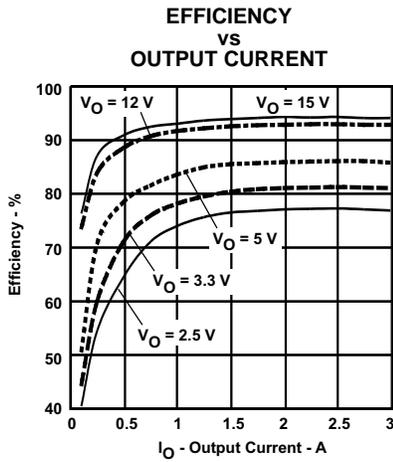
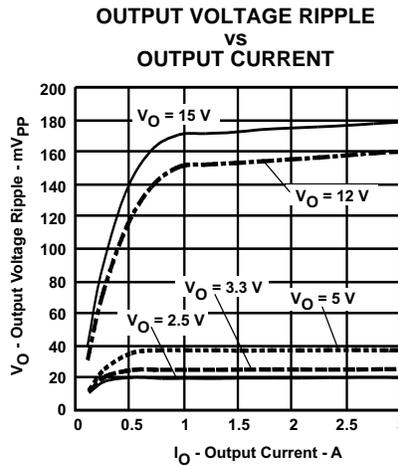
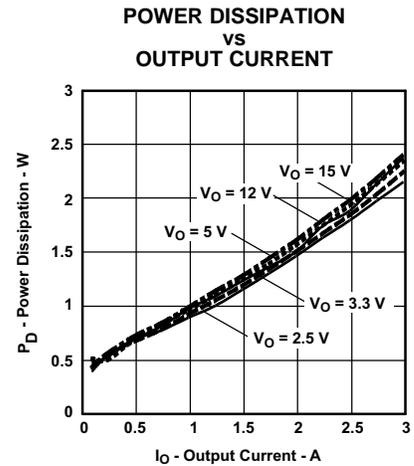

Figure 12.
Figure 13.
Figure 14.
- (1) The electrical characteristic data has been developed from actual products tested at 25° C. This data is considered typical for the converter. Applies to Figure 12, Figure 13, and Figure 14.